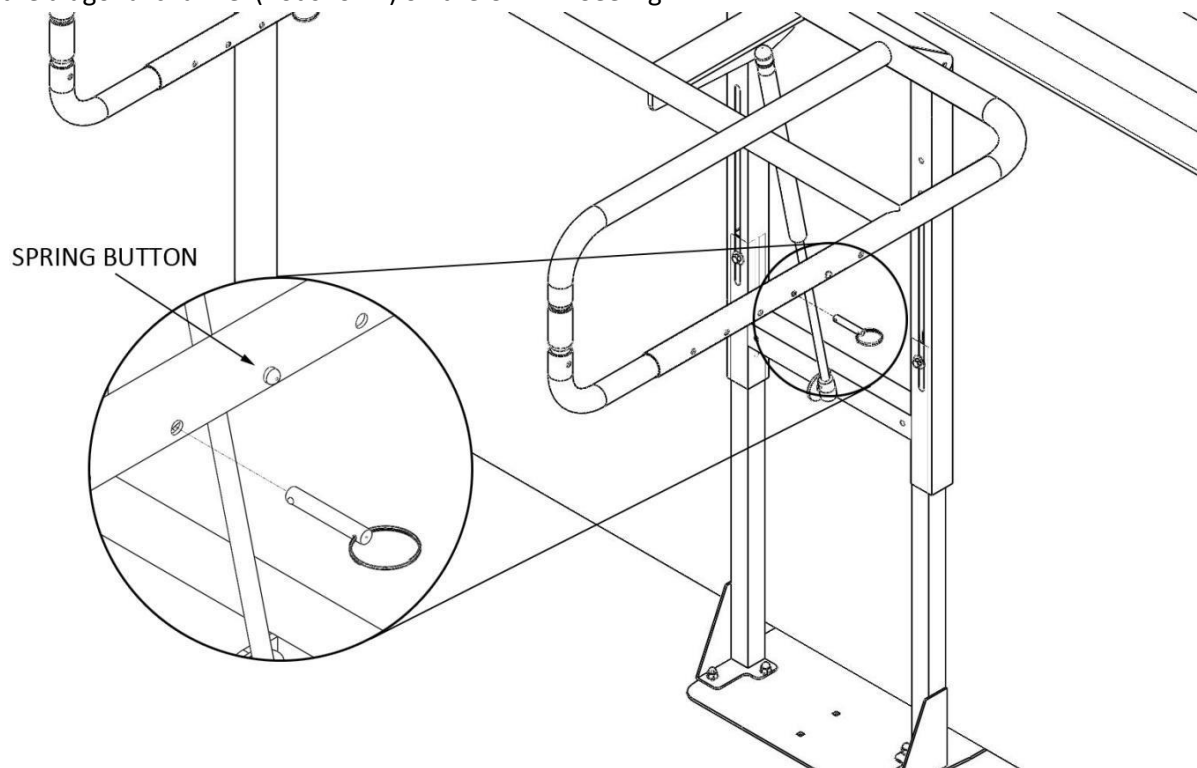

Figure 11
11. Push the ccF Pin through the hole directly underneath the spring button. Make sure the pin passes through the diagonal channel (not shown) on the U-Arm. See Fig 11.